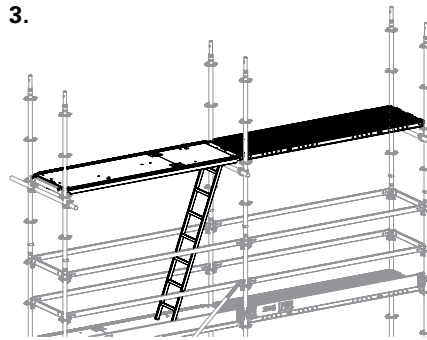

Fig. A4.03a
- Ladder, access deck and top Decks UDG (Fig. A4.03a)